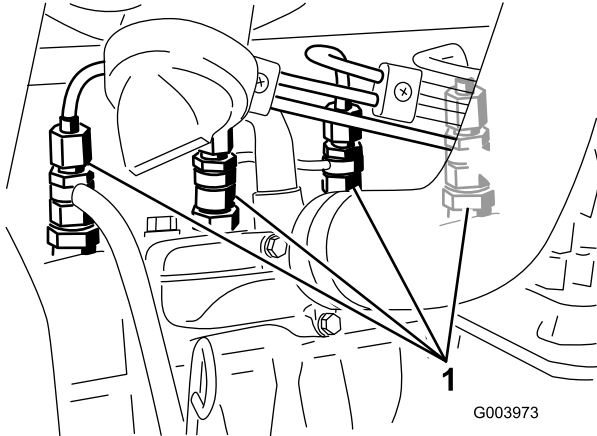

Figure 31
1. Loosen the pipe connection to the No. 1 nozzle and holder assembly (Figure 31).